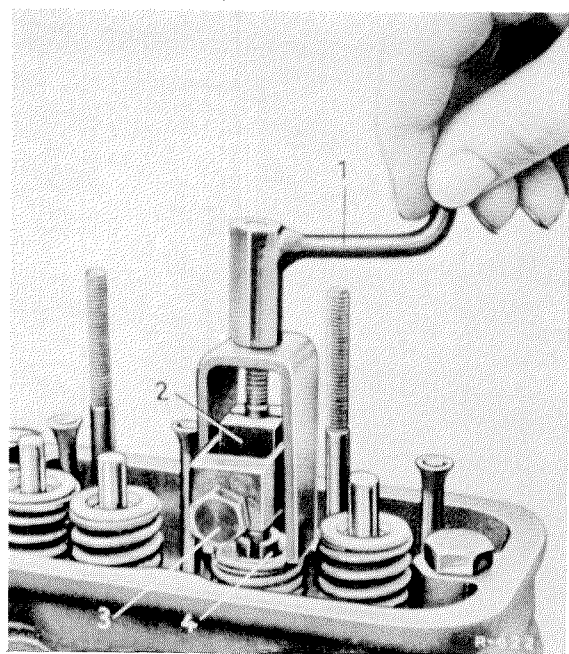

Figure 05-16/3
To do this, place the clamping jaws (2) of the valve lifter over the valve stem and fasten the screw (3) tightly. Then compress the valve spring by clockwise turning of the crank (1) and remove the valve cone halves (4) see Figure 05-16/3).
5. Mount the valve spring retainer (3) with Sleeve Part No. 636 050 00 23 on the valve spring (2). Lightly oil a new sealing ring (6) Part No. 636 053 00 60 and slide it over the valve stem, so that it sits on the bottom of the valve spring retainer (see Figure 05-16/2).
6. Clamp the Valve Lifter Part No. 636 589 03 31 with the clamping jaws (2) to the protruding end of the valve stem by securing the screw (3) (see Figure 05-16/3). Then compress the valve spring by clockwise turning of the crank (1) and push the sealing ring downwards, so that the valve cone halves can be installed. After inserting the valve cone halves (5) release again the valve spring (2) (see Figure 05-16/2) and after loosening the screw (3) remove the valve lifter (see Figure 05-16/3).